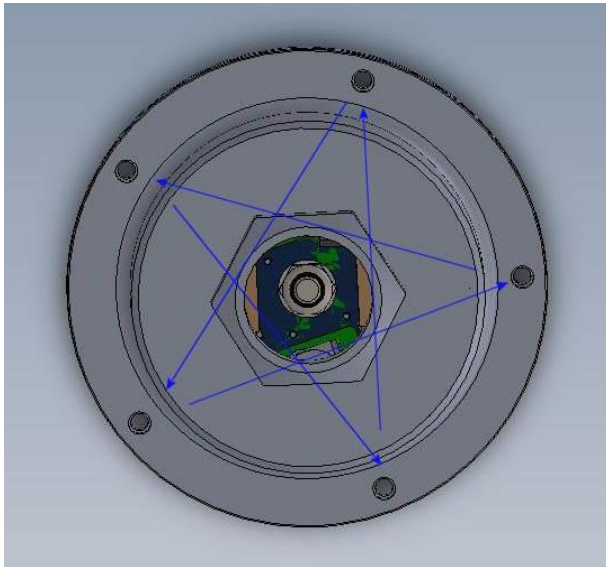

Figure 9-12: Tightening order
9.4.2.14 To compress the sealing O-ring evenly, tighten the five screws progressively working across the circle rather than around the circle of screws as illustrated in Figure 9-12. Tighten the screws to the torque specified in the installation drawing (46-XXXX) provided with each Bushing Adaptor.